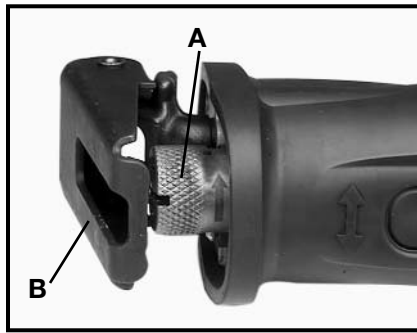

Fig. 1
1. The reciprocating shaft must be fully extended to permit access to the *Quik-Change*™ blade release collar (A) Fig. 1. If necessary, gently squeeze the trigger switch to move the reciprocating shaft to its outermost position (as shown in Fig. 1).
2. Pivot the guide shoe (B) Fig. 1, forward to improve access to the blade clamp.